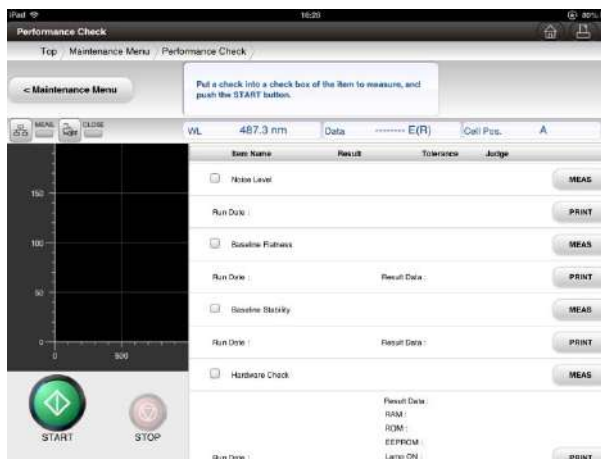

Fig. 6-10 Performance Check Screen
- (1) Display the Performance Check screen (Fig. 6-10). Press the **MEAS** button on the right edge of the item name “Noise level.” Then, the noise level check is performed.